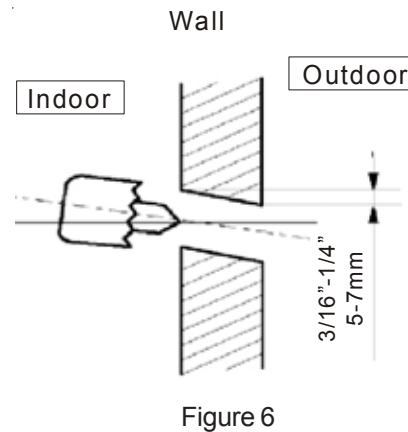

Figure 6
5. Drain hose should be installed with a slight downward slope. (See Figure 6.)